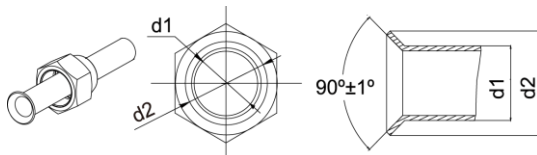

Fig. 4.9
- (1). Cut the connection pipe with the pipe cutter and remove the burrs.
- (2). Hold the pipe downward to prevent cuttings from entering the pipe.
- (3). Remove the flare nuts at the stop valve of the outdoor unit and inside the accessory bag of the indoor unit, then insert them to the connection pipe, after that, flare the connection pipe with a flaring tool.
- (4). Check if the flare part is spread evenly and there are no cracks (see Fig. 4.9).